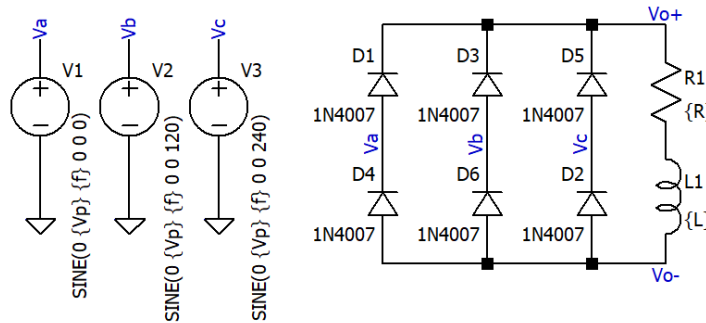

Figure 4.3 Uncontrolled 3-Phase full wave rectifier with inductive load
1. Connect the circuit as shown in Figure 4.3 in LT-spice Program.